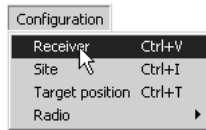

Figure 2-22. Configuration->Receiver
2. Click **Configuration->Receiver** (Figure 2-22).